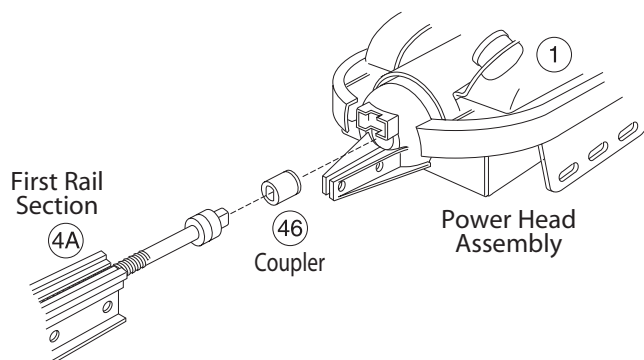

Figure 9 Install Bumper, Coupler and 1st Rail Section
- B** Install Coupler on Motor Shaft (**Figure 9**).